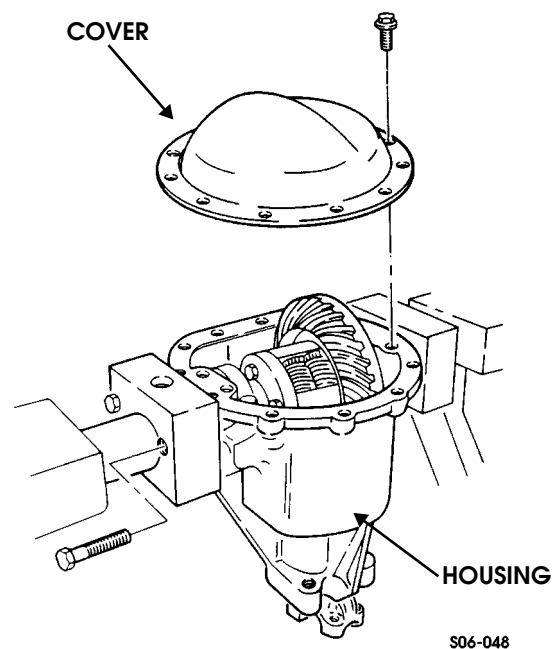

Figure 9-97: Housing Cover Installation
62. Apply silicone sealant to cover sealing surface and secure cover to housing with twelve bolts. Tighten bolts to 16 lb-ft (22 N•m) (Figure 9-97).